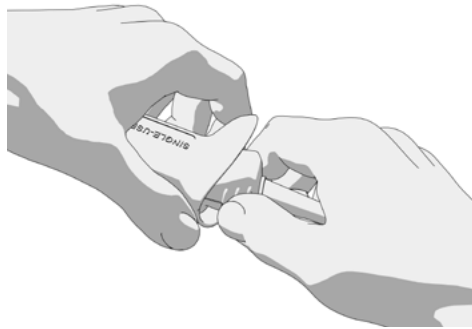

Figure 27: When using the GVL Stat, gently pressing the collar makes removing the baton easier
2. With the other hand, grasp the handle of the video baton and pull firmly (**Figure 27**).
3. To reduce the force required to remove the baton from the Stat, use your thumb and finger to gently press the Stat (**Figure 27**).